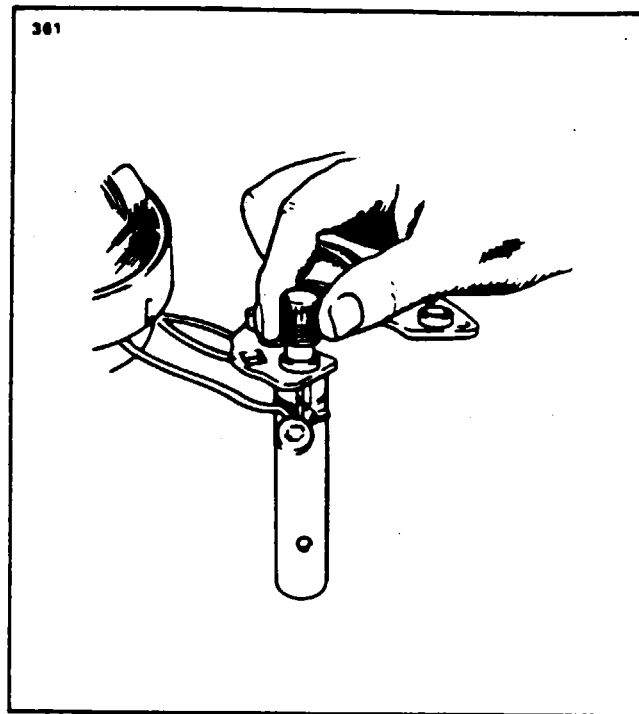

Figure 24-4. Removal of Rectifier
4. Remove the nuts, lock washers, flat washers and insulators from the output and auxiliary terminal studs. Note carefully the correct assembly of the insulator washers and bushings. Using the special tools shown in Figure 24-4, support the end head and press out the three negative rectifiers. The end head can now be separated from the stator assembly.